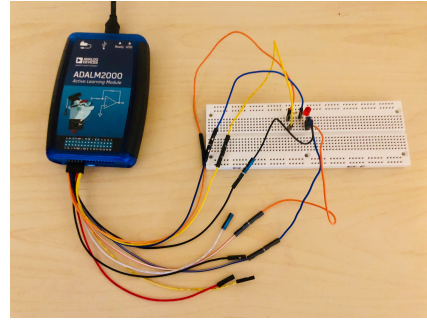

Figure 2: M2K with circuit
- While M2K unit is USB connected to your computer it will connect to external circuits you will build on your breadboard with 10 wires extending from 10 nodes labeled by 1+/-, 2+/-, ground symbols, V+/-, and W1/2 on the left side of the unit as Figure 2 :